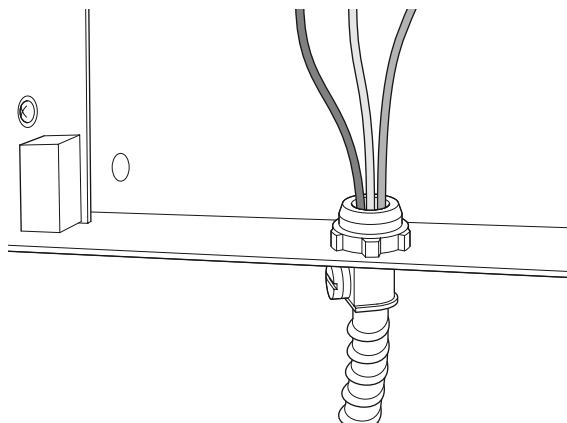

Figure 7: Attach a wire conduit
4. Attach a wire conduit (knockout size  $\frac{1}{2}$ " ) to the housing through the circular hole, as indicated in Figure 7. Pull through the electrical wires of line, neutral and earthing.